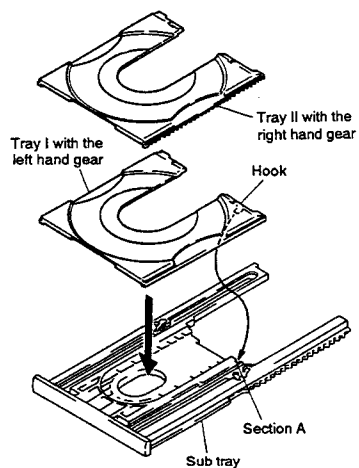

Fig. 2-13
- (2) As shown in Fig. 2-13, attach the tray I or II to the sub tray by the hook applied to the section A. At that time note that the tray I has the gear on the left hand, and the tray II has the gear on the right hand. When attaching respectively, make sure the position where the lock lever attached.